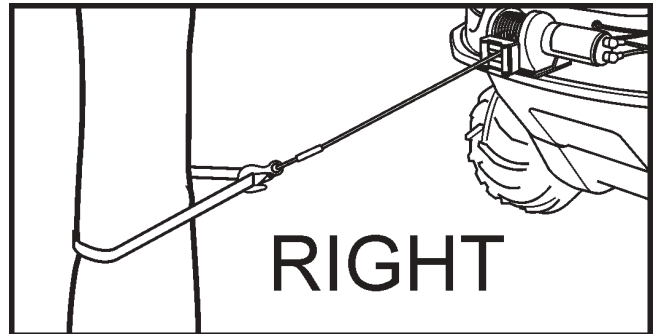
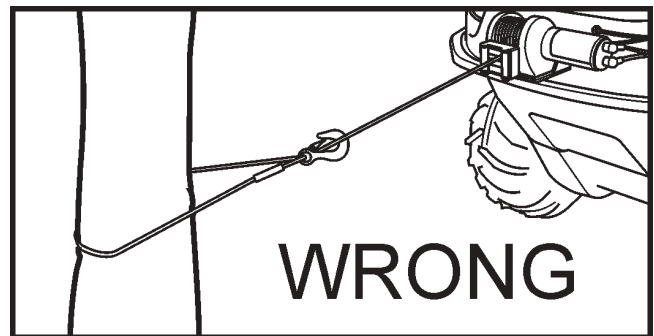

Figure 11-22. Correct hook-up.
Figure 11-23. Incorrect hook-up.
8. NEVER HOOK THE WIRE ROPE BACK ONTO ITSELF. Use a nylon sling. (Figure 11-22.) Hooking the wire rope onto itself can damage the rope (Figure 11-23).